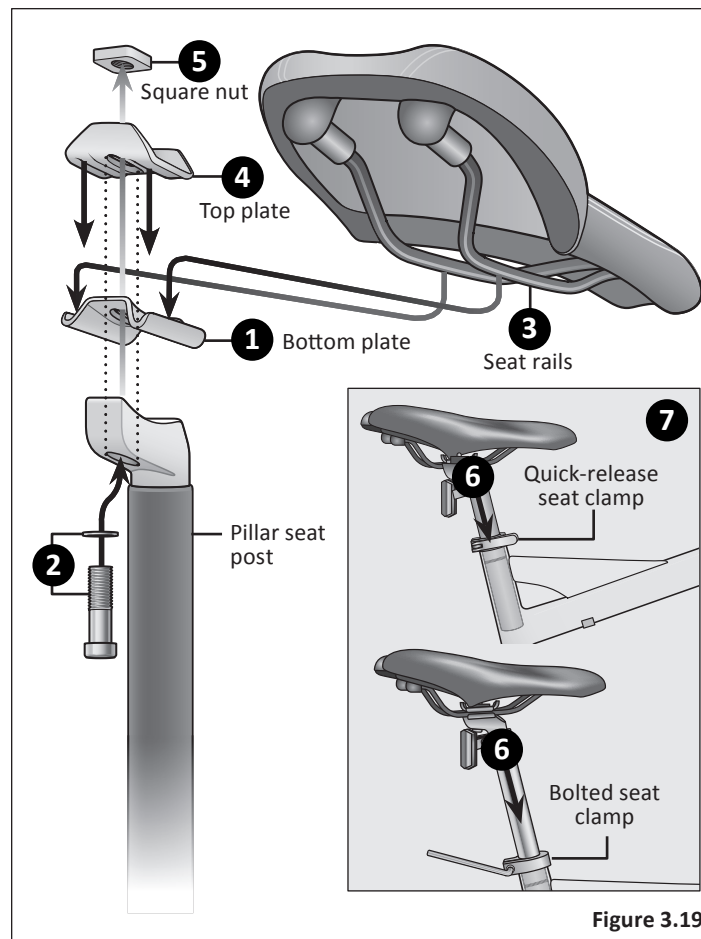

Figure 3.19
- ❶ Place the bottom plate on the pillar seat post. Be sure the holes in the bottom plate and the holes in the seat post are aligned. **Figure 3.19**
- ❷ Place the washer on the hex bolt and insert the bolt through the bottom hole of the pillar seat post and bottom plate.
- ❸ Place the rails of seat into the grooves of the bottom plate.
- ❹ Place the top plate over the top of the seat rails. The hex bolt should be inserted through the hole in the top plate.
- ❺ Insert the square nut onto the hex bolt and tighten completely.
- ❻ Insert the pillar seat post into the seat tube and adjust the seat height up or down until the rider feels they have control of the bicycle and is comfortable.